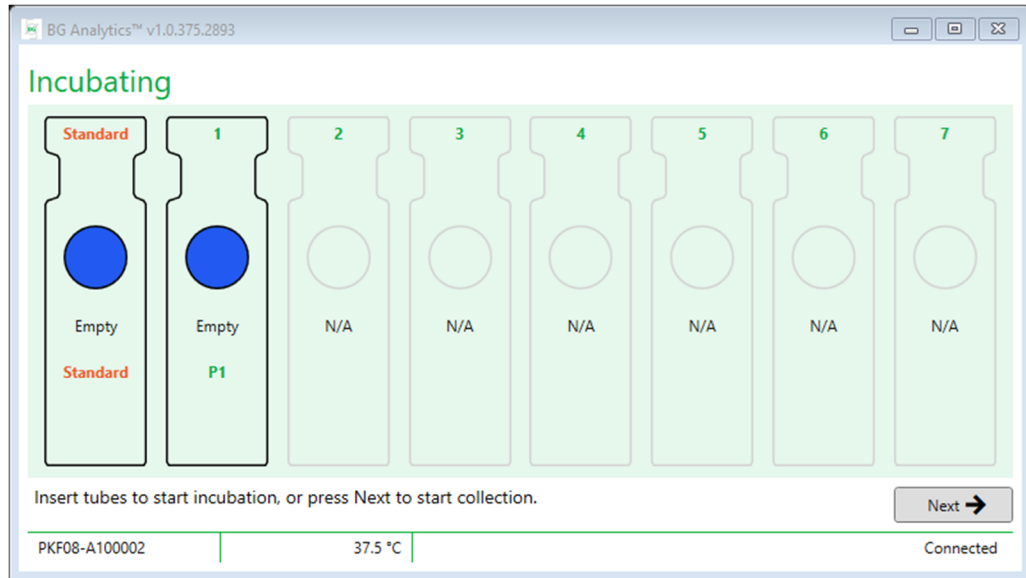

Figure 9. BG Analytics® Incubating Screen
1. On the **Incubating** screen, the wells are ready for tube insertion when the well status is “Empty” (Figure 9). The first well on the left is labeled as **Standard** and it is dedicated for STAT STD vial, while the remaining wells, labeled as **1** to **7**, are dedicated to patient samples.